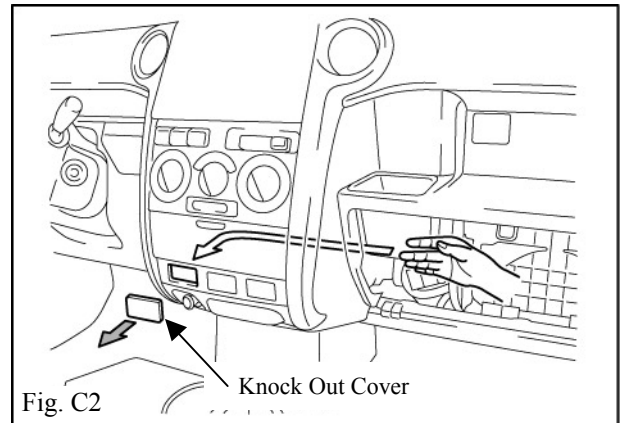

Fig. C2
2. Determine proper switch location. (Fig. C2)
- ➡ 3. Remove knock out cover from switch position shown. (Fig. C2)